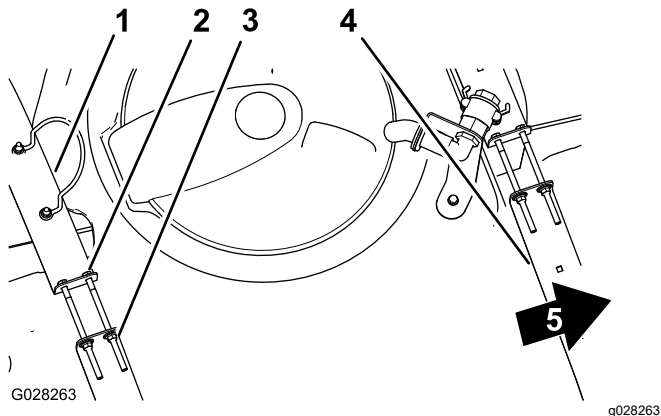

Figure 19
- Check to see if there is any movement between the tank straps and the tank (Figure 19).
- If the tank straps fit loose to the tank, tighten the flanged locknuts and bolts at the top of straps until the straps are flush with the surface of the tank (Figure 19).